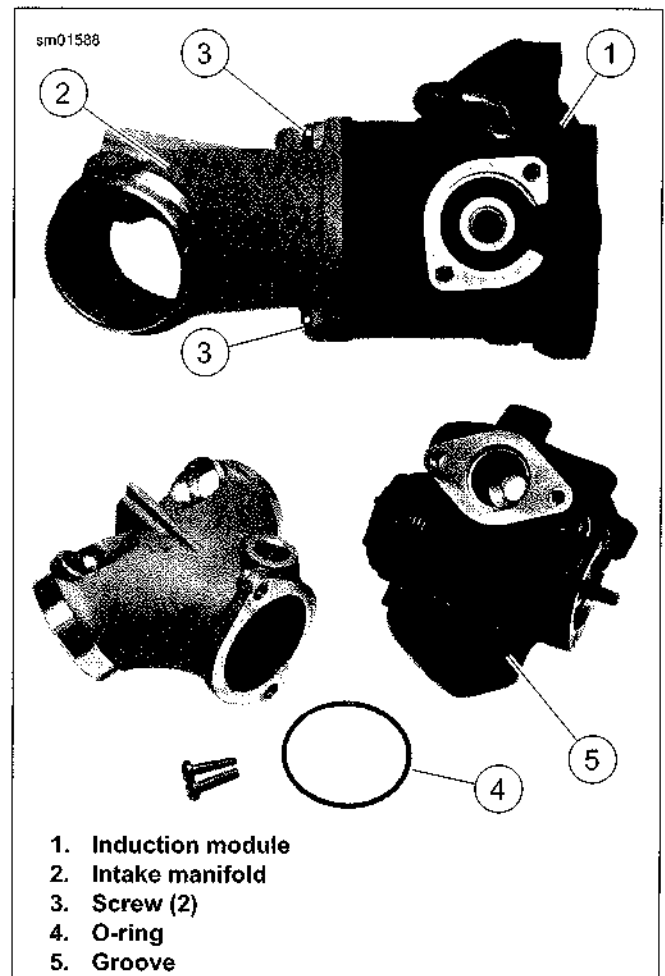

Figure 4-23. Induction Module Assembly
4. See Figure 4-23. Remove two screws (3) to separate induction module (1) from intake manifold (2). Discard O-ring (4).
1. See Figure 4-23. Place **new** O-ring (4) into groove (5) in induction module (1) mating surface.
2. Mate induction module to intake manifold (2). Secure with two screws (3). Tighten screws to 35 **in-lbs** (4.0 Nm).